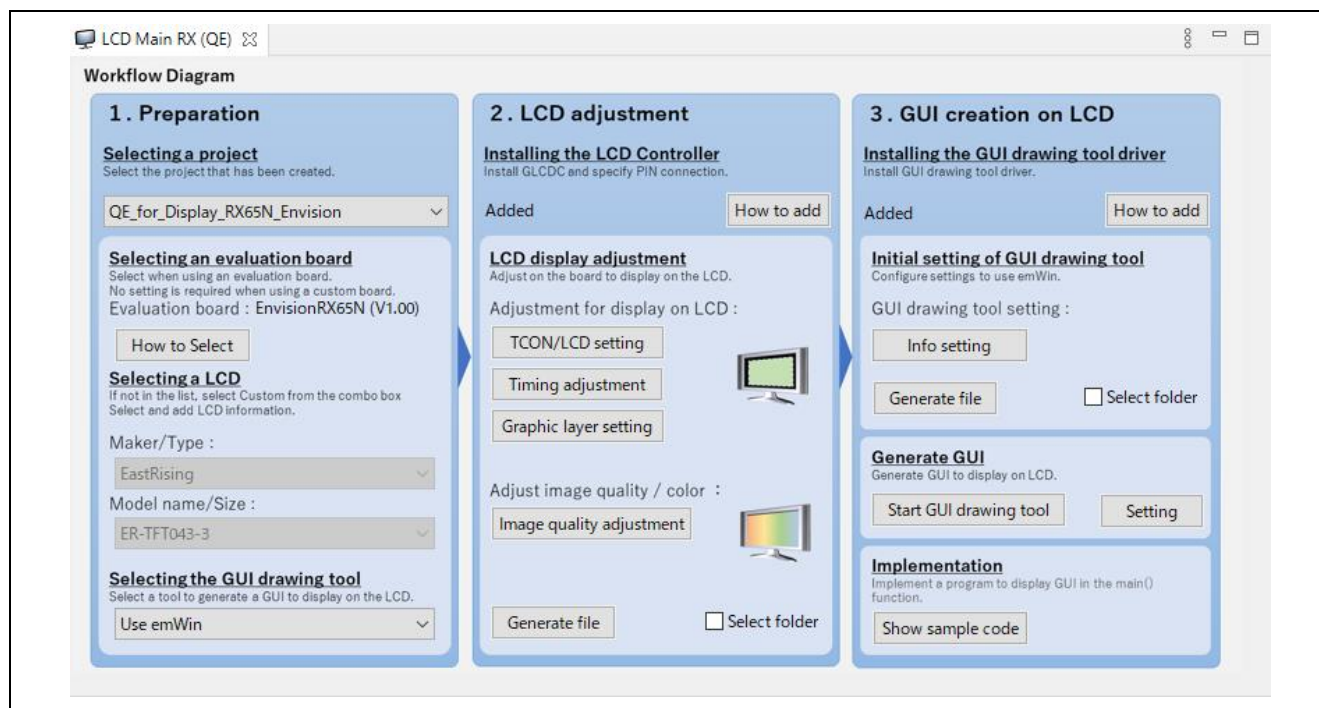

Figure6-1 Initial State of QE for Display [RX]
Selecting “Renesas Views” -> “Renesas QE” -> “LCD Main RX (QE)” from the menu of the e² studio starts QE for Display [RX] (Figure6-1).